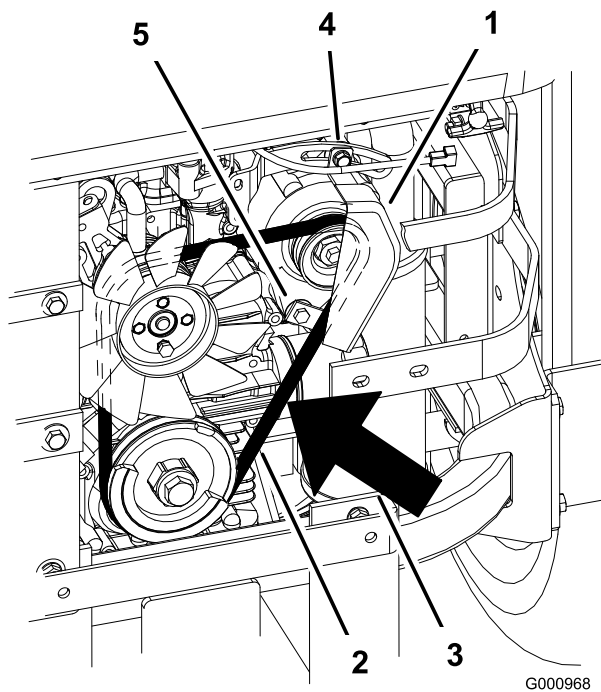

Figure 71
7. Loosen the bottom bolt and remove the upper bolt holding the alternator and cover (Figure 71).
9. Install a new belt around the pulleys and the alternator (Figure 71).
14. Tighten the bottom bolt and install the upper bolt holding the alternator and cover (Figure 71).
2. Adjust the alternator to the outside until there is 1/4 to 11/32 inch (7 to 9 mm) deflection in the belt between the engine and the alternator pulleys with 22.1 lbs of force (10 kgf) (Figure 71).
5. If the deflection is correct, tighten the bottom and upper bolt (Figure 71).